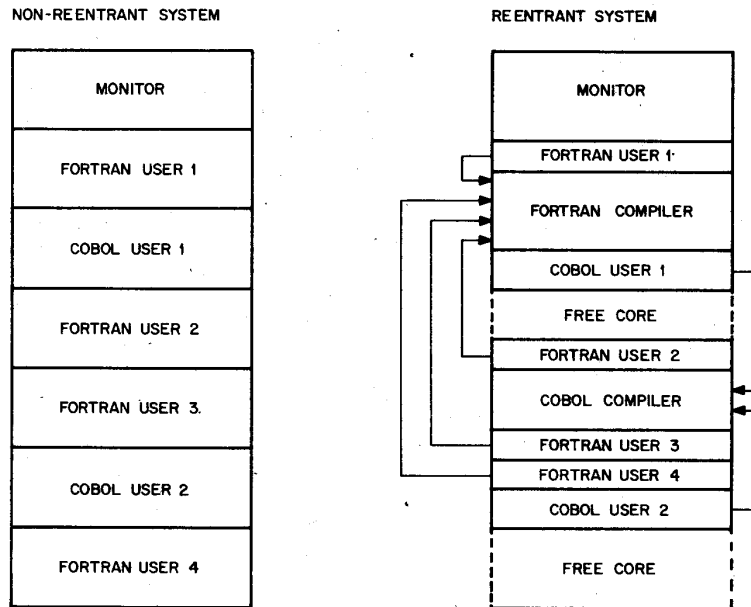

Figure 1-1
a) core memory, since only one copy of a shared segment exists for the entire system (Figure 1-1 illustrates this efficient